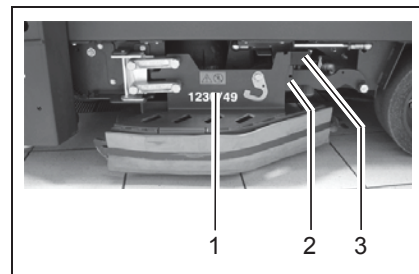

Fig. 5
Open the deflector (Fig. 5/1) before assembling or disassembling brushes and pads:
1. Take hold of the deflector (Fig. 5/1) by the grip (Fig. 5/3).
2. Raise the deflector (Fig. 5/1) and pivot outwards to the front.
3. Lower the deflector (Fig. 5/1) (service position).
1. Open the deflector (Fig. 5/1), refer to paragraph "Opening and closing the deflector".
8. Close the deflector, refer to paragraph "Opening and closing the deflector". The deflector (Fig. 5/1) is now in its working position.
6. Close the deflector, refer to paragraph "Opening and closing the deflector". The deflector (Fig. 5/1) is now in its working position.